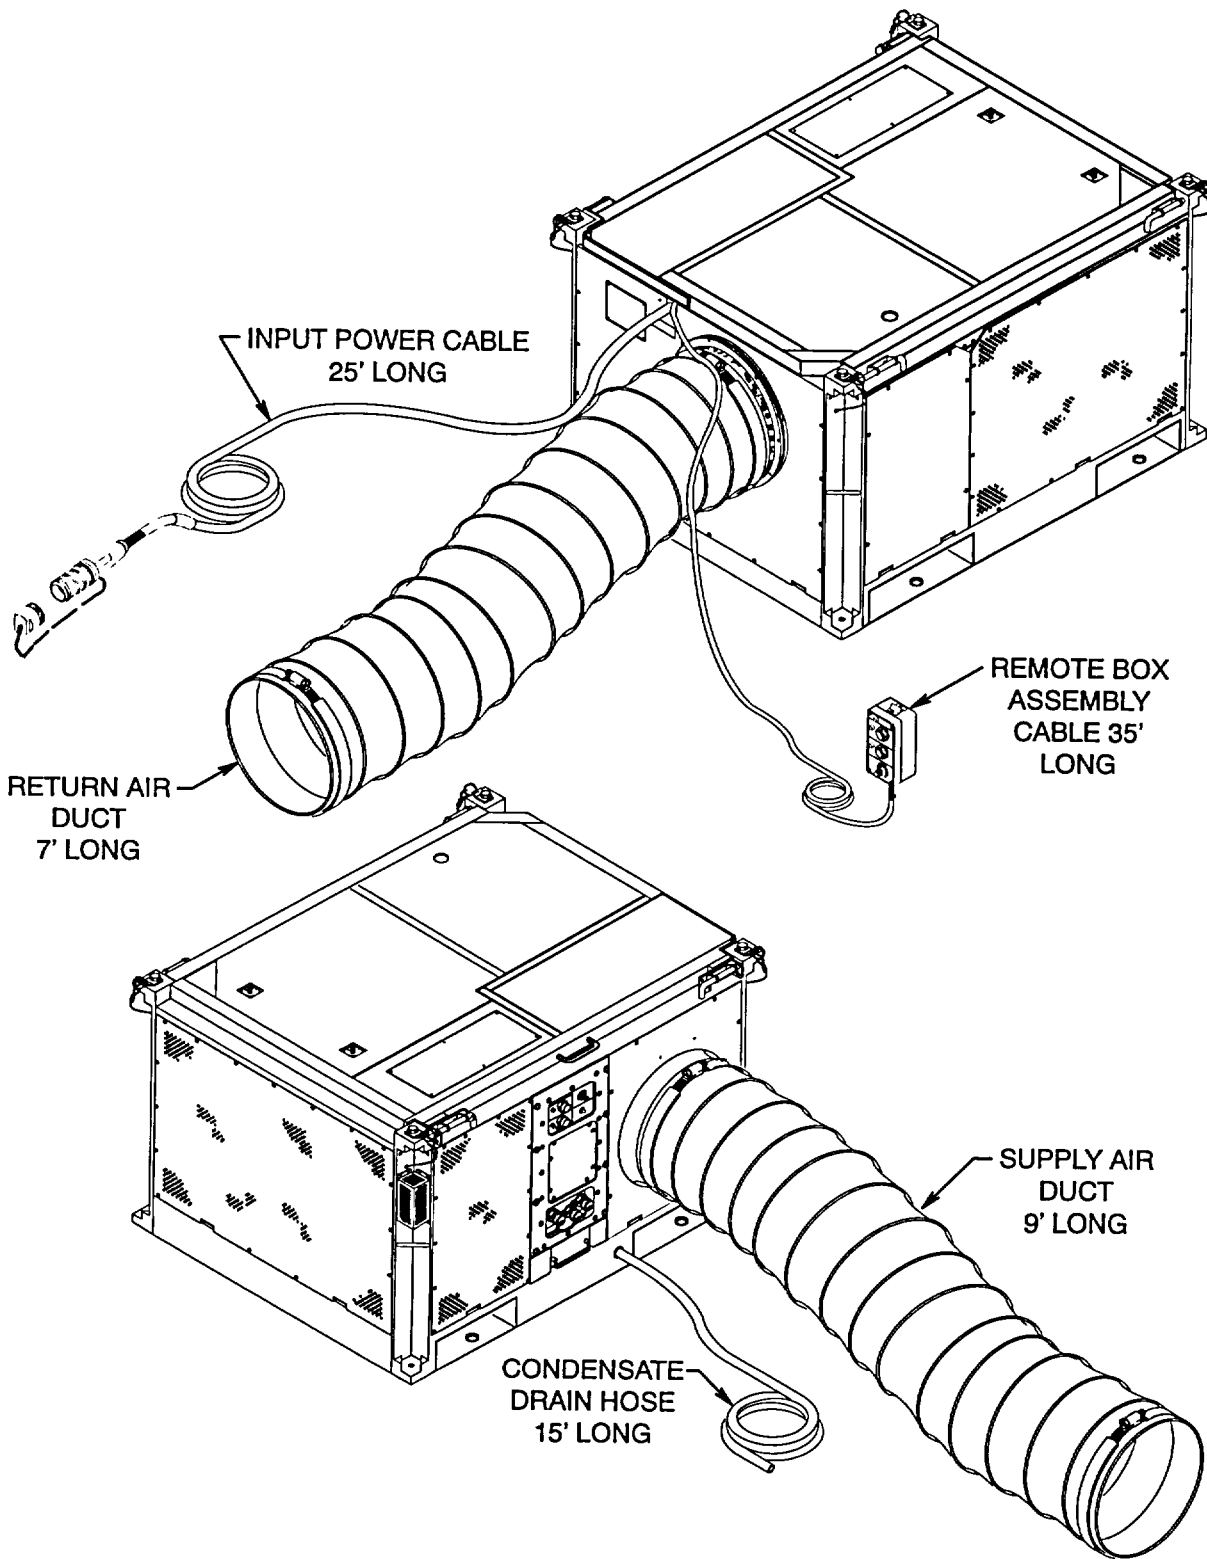

Figure 4-1. Siting.
4.1.1 **Siting.** Figure 4-1 illustrates the various requirements and limitations for determining proper placement of the FDECU. In addition to those requirements, the unit must be placed so that the sides and top are a minimum of four feet from any obstruction. The unit must be placed to allow for water draining from the bottom in the winter during outside coil defrost cycle. When orienting the unit to the shelter, be sure that the ducts can be connected with smooth bends and will not get kinked. The unit must be placed on a relatively level surface, within 5° in any direction.